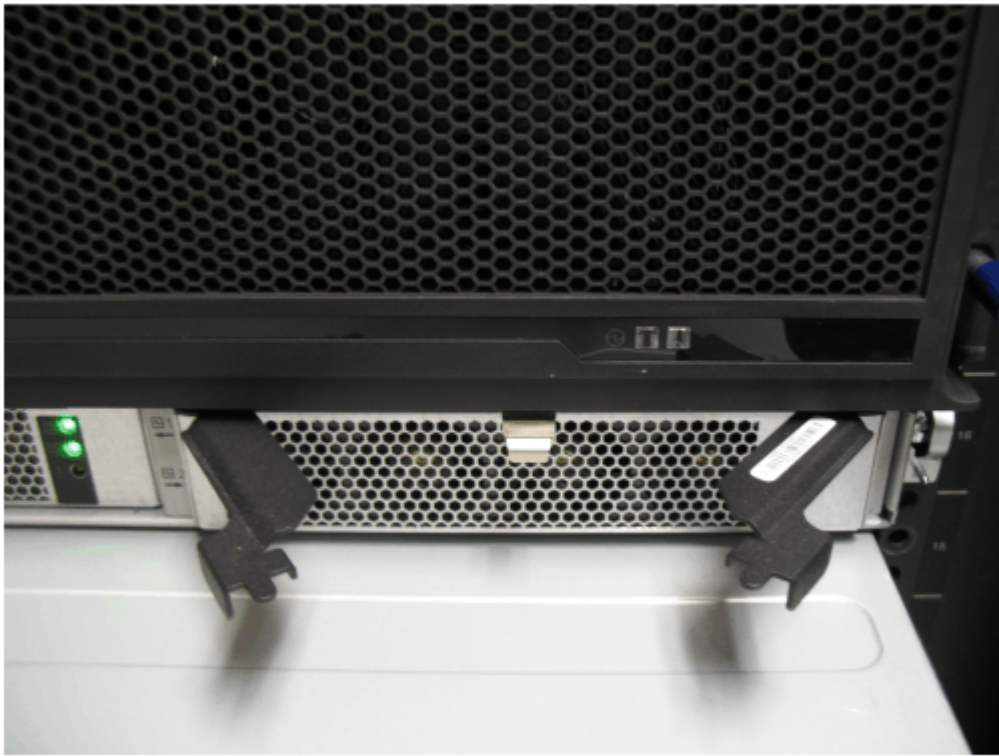

Figure 130. Releasing the power supply handles
Each PSU provides cooling to the lower part of the enclosure. Ensure that the second PSU in the enclosure is powered on and operating correctly. For example, in Figure 130 on page 168, PSU 1 is operating while PSU 2 is being removed.
4. Rotate the handles outward, as shown in Figure 130 on page 168.